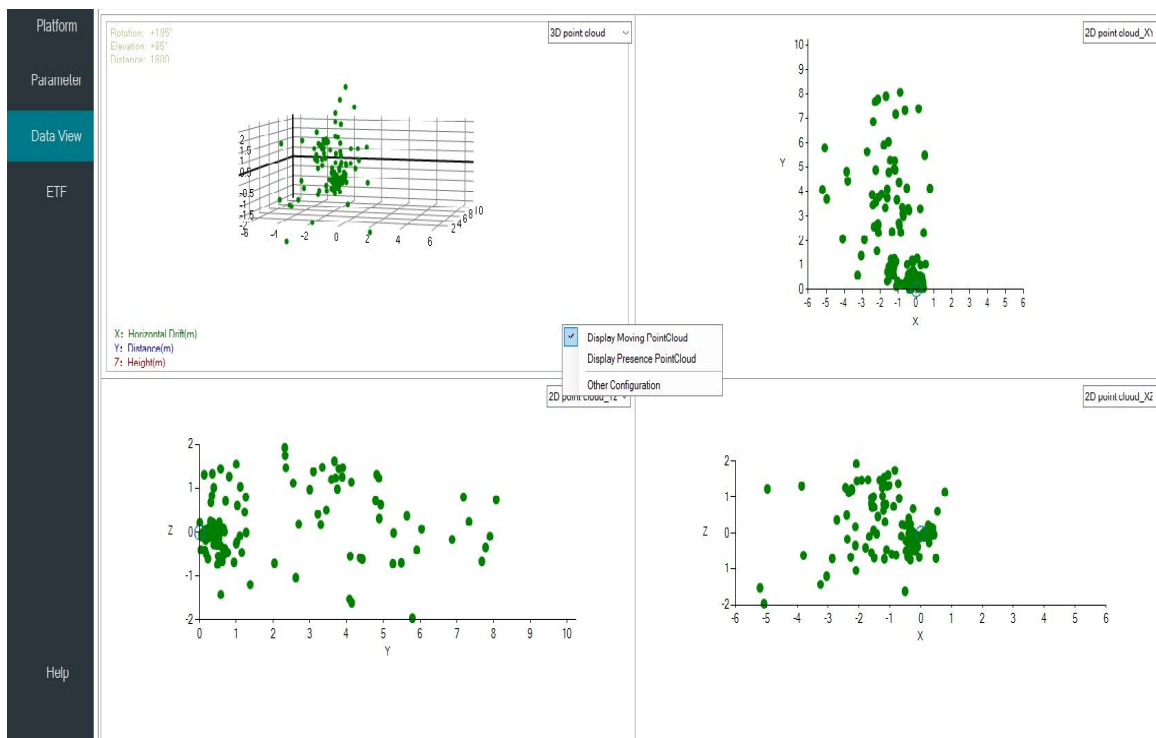

Figure 2-40 Point-Cloud View Selection Example
- 2、 As shown in Figure 2-40, right-click in each view to enable or disable Display Motion Point Cloud (blue, enabled by default), Display Presence Point Cloud (orange, enabled by default), and Other Configuration Options. In the example, presence point clouds are disabled in the 3D Point Cloud and 2D Point Cloud_XY views and enabled in the 2D Point Cloud_YZ and 2D Point Cloud_XZ views.